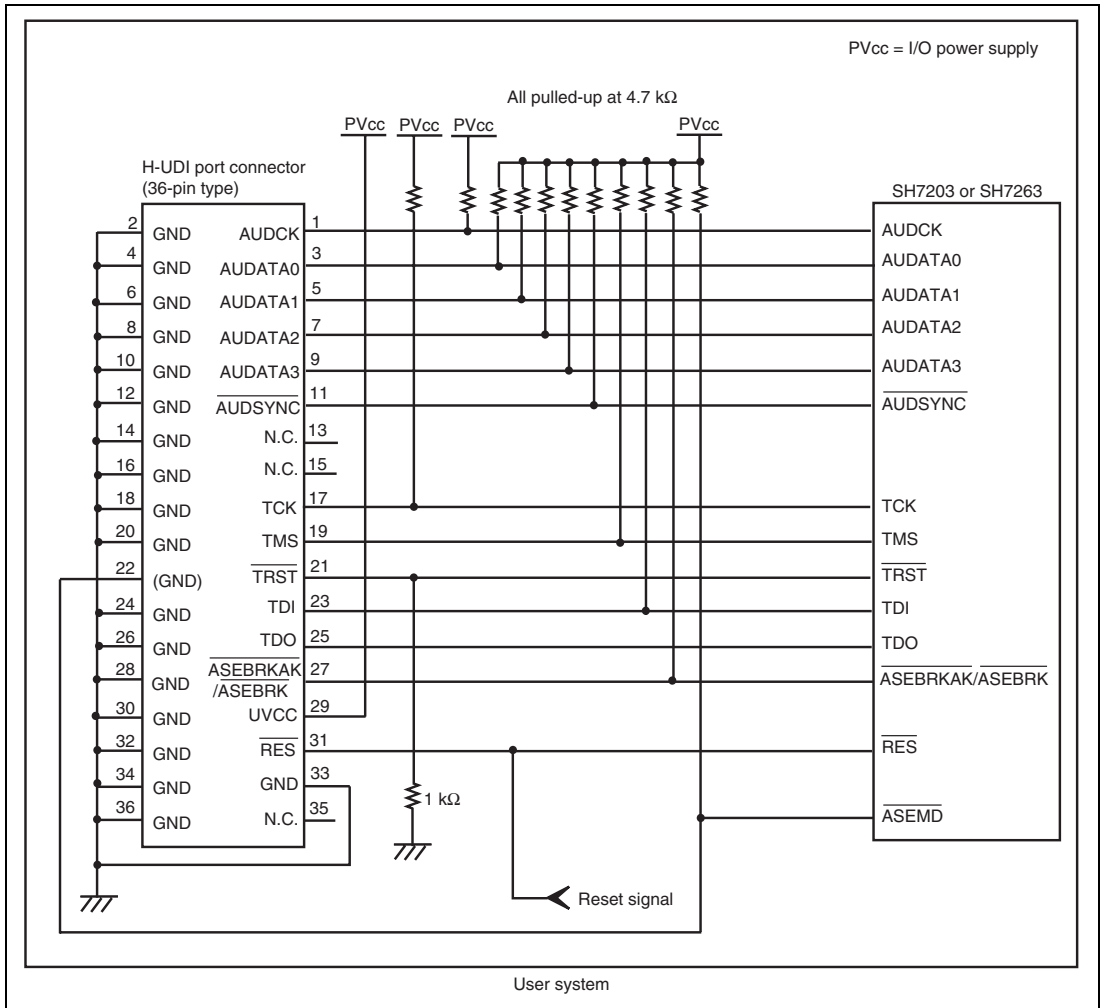

Figure 1.5 Recommended Circuit for Connection between the H-UDI Port Connector and MCU when the Emulator is in Use (36-Pin Type)
Figure 1.5 shows a recommended circuit for connection between the H-UDI and AUD port connectors (36 pins) and the MCU when the emulator is in use.
- (1) When the emulator is used: ASEMD# = 0
- (2) When the emulator is not used: ASEMD# = 1Figure 1.5 shows an example of circuits that allow the ASEMD# pin to be GND (0) whenever the emulator is connected by using the user system interface cable. When the ASEMD# pin is changed by switches, etc., ground pin 22. Do not connect this pin to the ASEMD# pin.
7. The resistance value shown in figure 1.5 is for reference.
When the circuit is connected as shown in figure 1.5, the switches of the emulator are set as SW2 = 1 and SW3 = 1. For details, refer to section 3.8, Setting the DIP Switches, in the SuperH™ Family E10A-USB Emulator User's Manual.